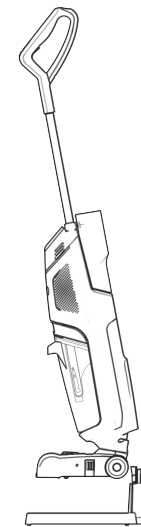

Fig.15
- 2.Put the appliance onto the charger, and the battery indicator turns on and the appliance enters into the charging condition. And the charging is finished after the battery indicator turns off (see Fig.15).